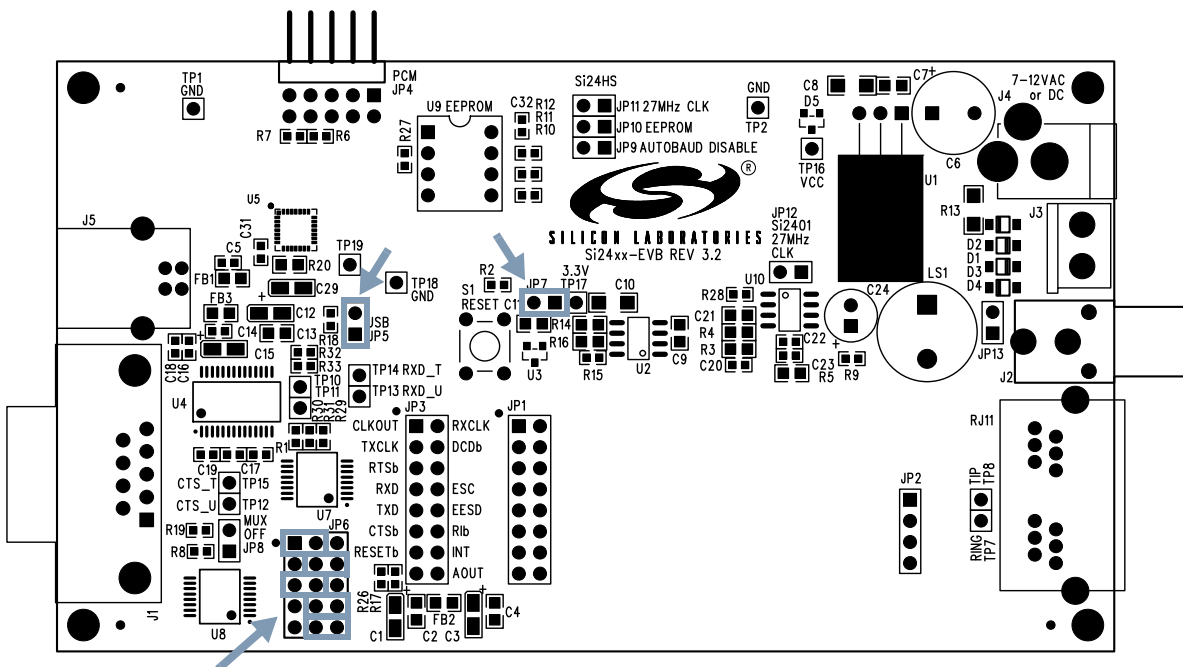

Figure 2. Standard Factory Jumper Settings—USB Interface (Outlined in Gray)
1. Set jumpers according to Figure 2.